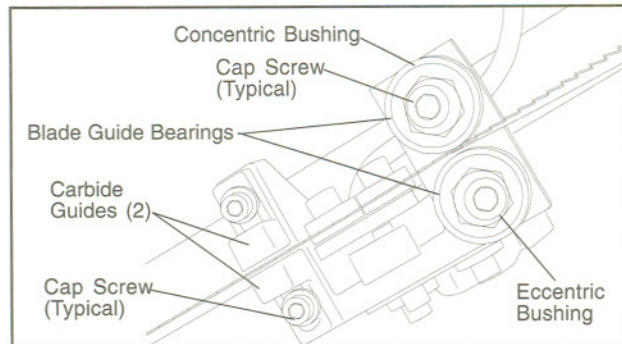

Figure 18: Carbide blade guides and guide bearings
1. Raise the saw arm to its full upright position and lock it in position (refer to Figure 18).